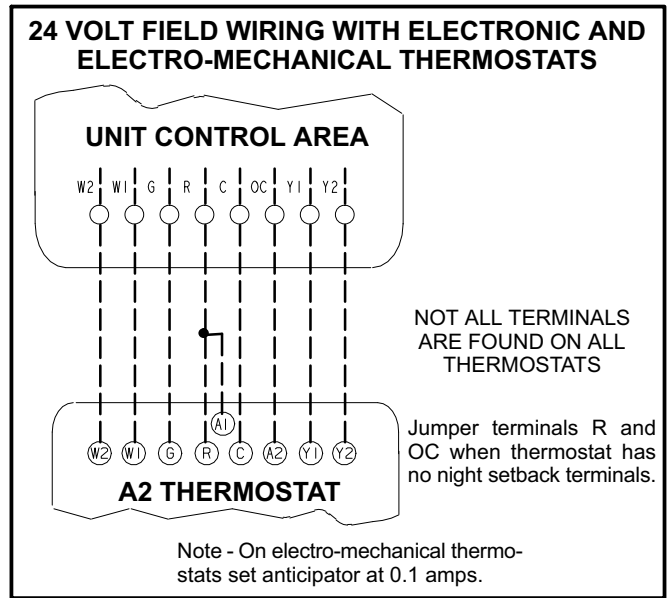

FIGURE 13
- 3- Connect thermostat wiring to leads in control panel. Wire as shown in figure 13 for electro-mechanical and electronic thermostats. If using other